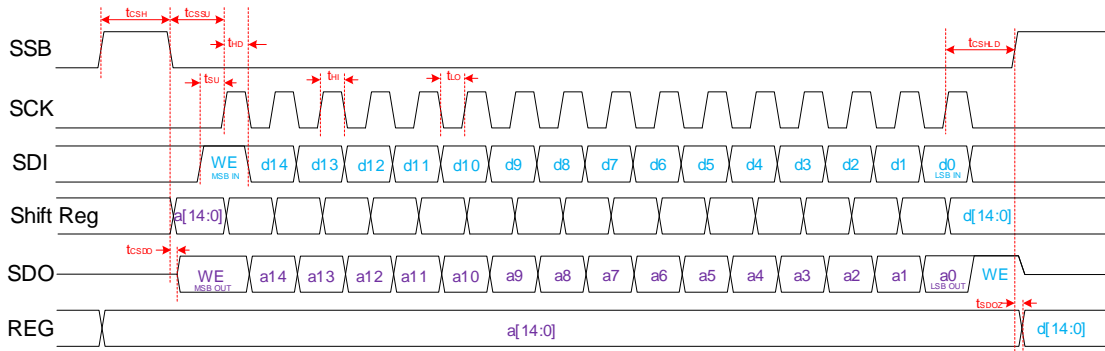
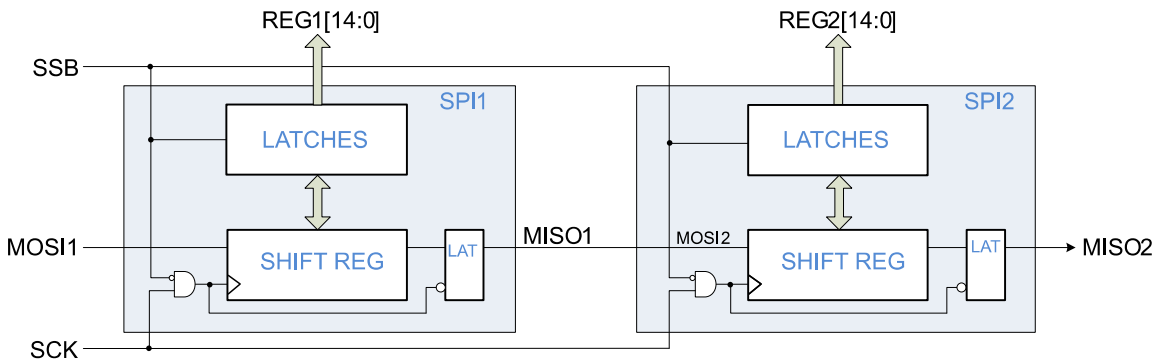
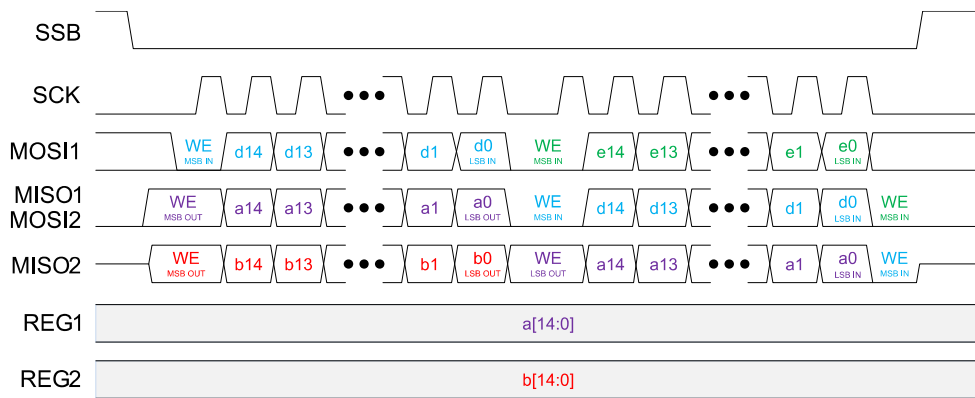
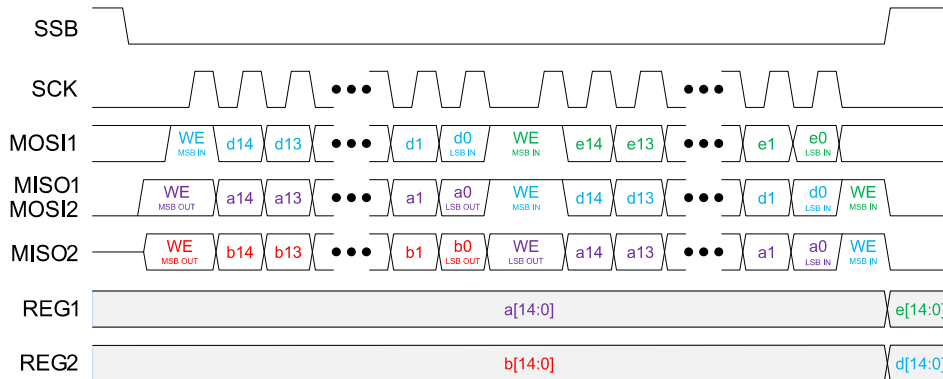

Figure 8. SPI Timing Diagram
Figure 11. SPI with 2 ICs Daisy-Chained
Figure 12. SPI Read Only (2 ICs Daisy-chained)
Figure 13. SPI Read & Write (2 ICs Daisy-Chain)
MODE = 0, activates the 16-Bit Serial Peripheral Interface (SPI) module for operation. Multiple devices can be daisy-chained to drive multiple ICs using one SPI bus (see Daisy Chain Operation, Figure 11., Figure 12. and Figure 13). The SPI works at any frequency up to a maximum of 33 MHz and may operate at significantly lower frequencies if the logic signals adhere to the data setup and hold requirements.
SPI timing diagrams are provided in Figure 8 through Figure 13 In SPI mode, data transmission starts when SSB goes Low, causing the Target to output the Most Significant Bit (MSB) of data to the SDO (MISO) pin. Data transfer from Host to Target takes place during the rising edge of the clock (SCK), which is idle when SSB is High. This mode of operation requires data for Host and Target to be present on SDI (MOSI) before the rising edge of the clock (defining SDI to SCK setup time). Data is pushed out of the SDO (MISO) pin during the falling edge of the clock. After the first 16-bit transaction, Host writes the latest data (DN) to
Daisy chaining the ICs is permitted and involves connecting the MISO of one chip to the MOSI of the next chip in the chain, as shown in Figure 11. SPI timing diagrams with daisy-chained devices are provided in Figure 12 and Figure 13.